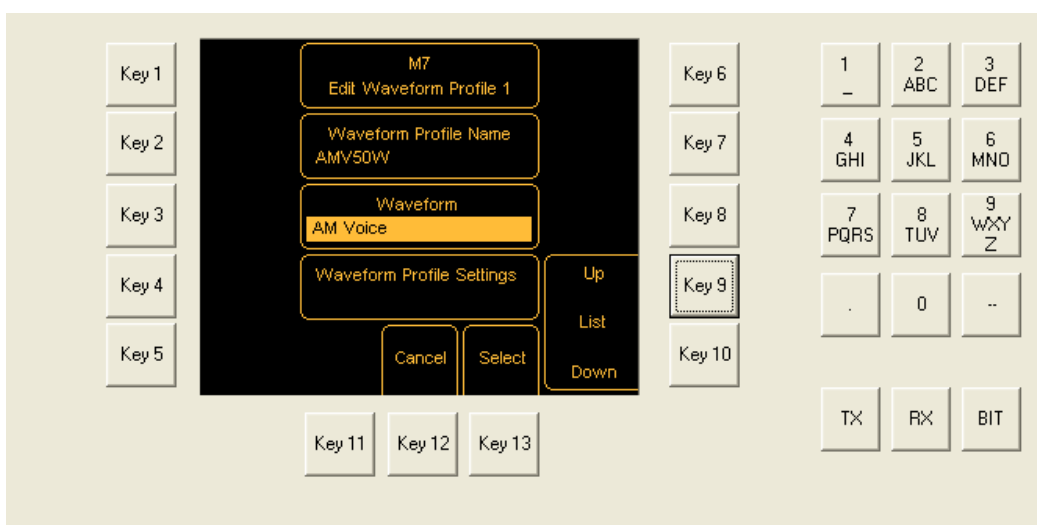

Fig 3-37 Select Waveform
- (5) The required waveform should now be selected by pressing *Key 3 – Change*. This action displays the Select Waveform screen as shown in Fig 3-37.